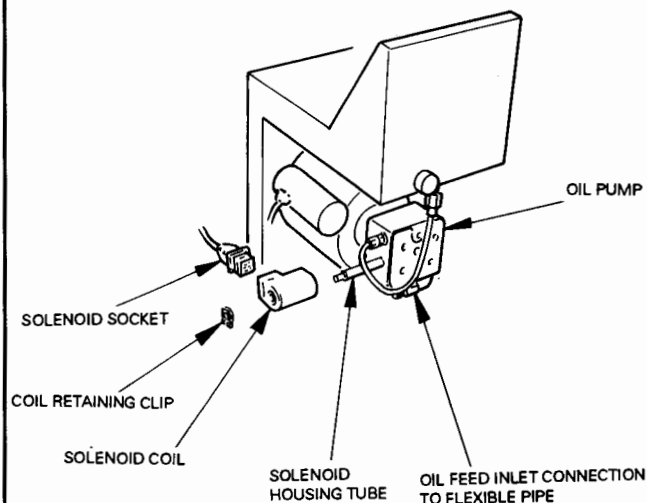

Fig.13 REMOVAL OF OIL PUMP SOLENOID
4.1.3 To Replace Oil Pump Solenoid Valve (see fig13)